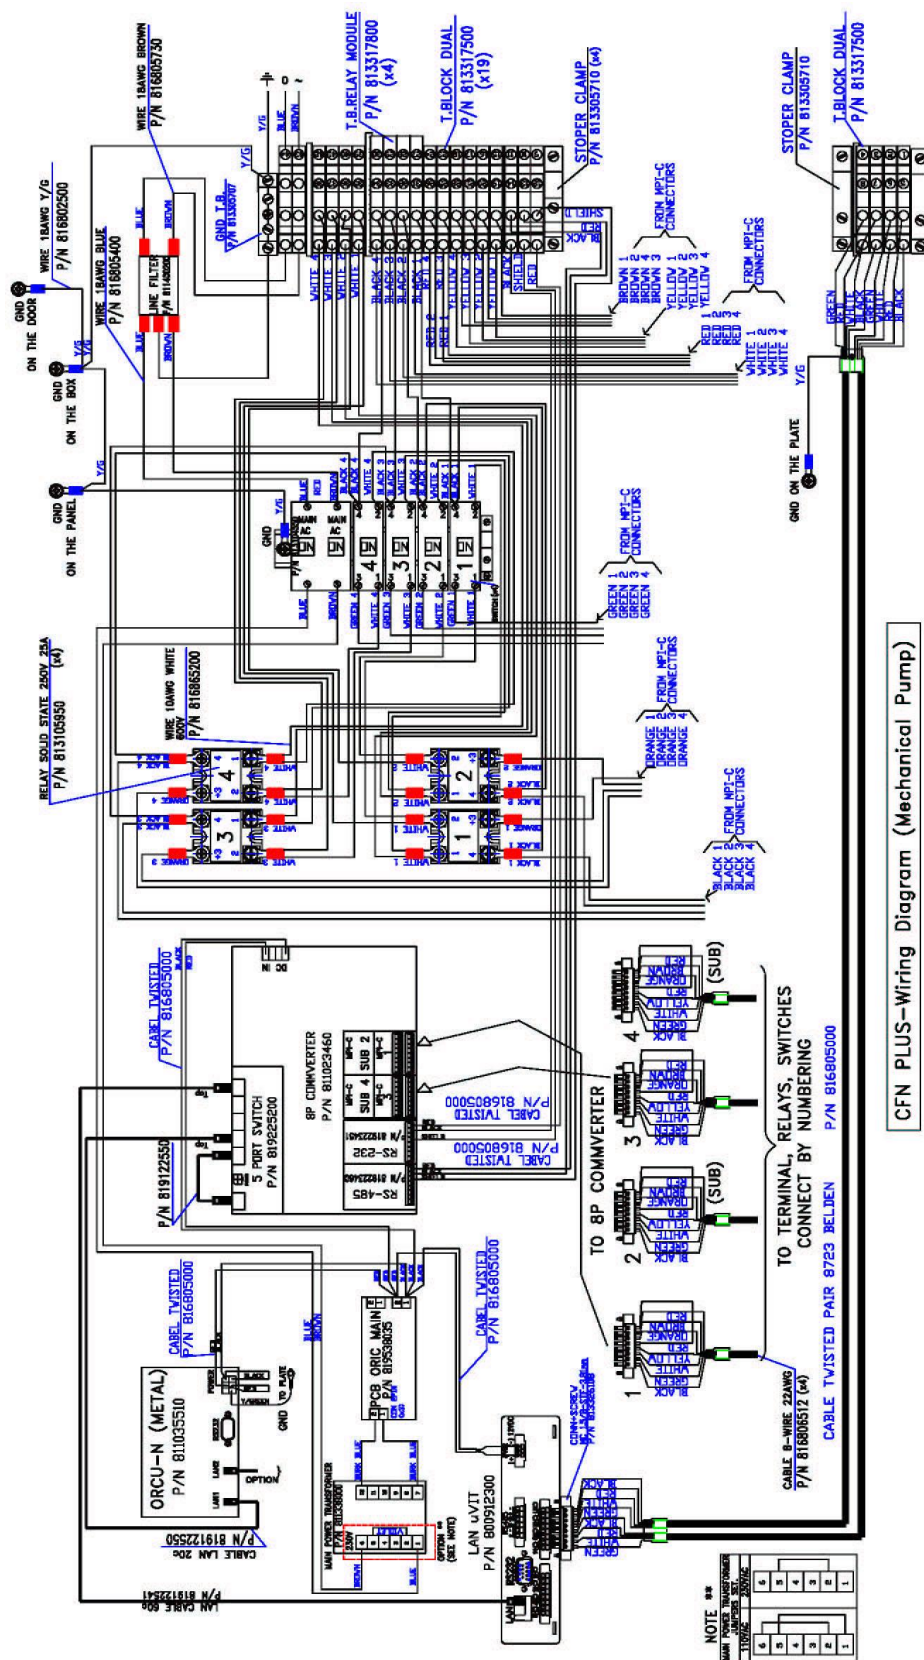

Figure B-1 CFN PLUS - Wiring Diagram (Mechanical Pump)
- Figure B-1 CFN PLUS - Wiring Diagram (Mechanical Pump)